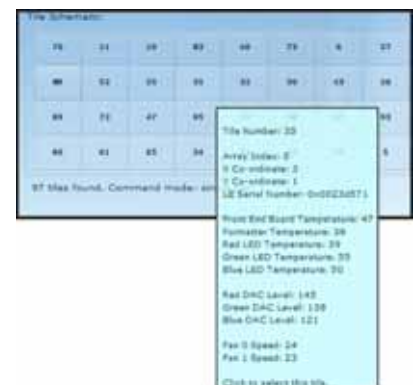

Figure 3-17 Tile Properties
3. To check the status of a particular tile, place your mouse over the desired tile under the **Tile Schematic** section to display its properties (**Figure 3-17**).